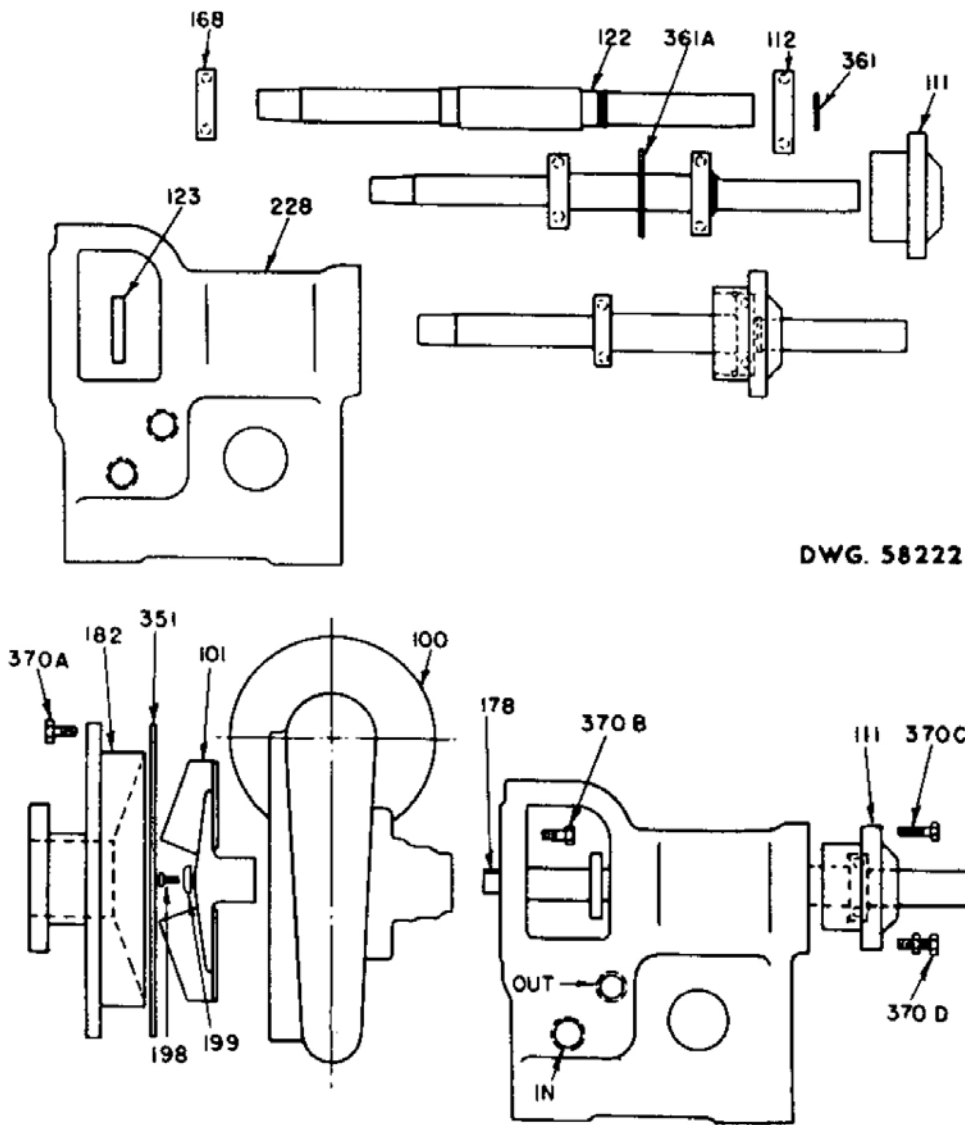

Figure 14: Exploded assembly
6. Remove suction cover (182) See Figure 14: Exploded assembly on page 34.
7. Remove the socket head impeller screw (198) and impeller washer (199).
8. Remove bolts (370B) which hold casing (100) to frame (228 or 228A).
9. Bolt puller bar to casing with two casing bolts (370A), as shown. As jack screw is tightened, casing will bear on back of impeller (101) and pull impeller from shaft (122). Use a metal disc or washer to protect end of shaft.